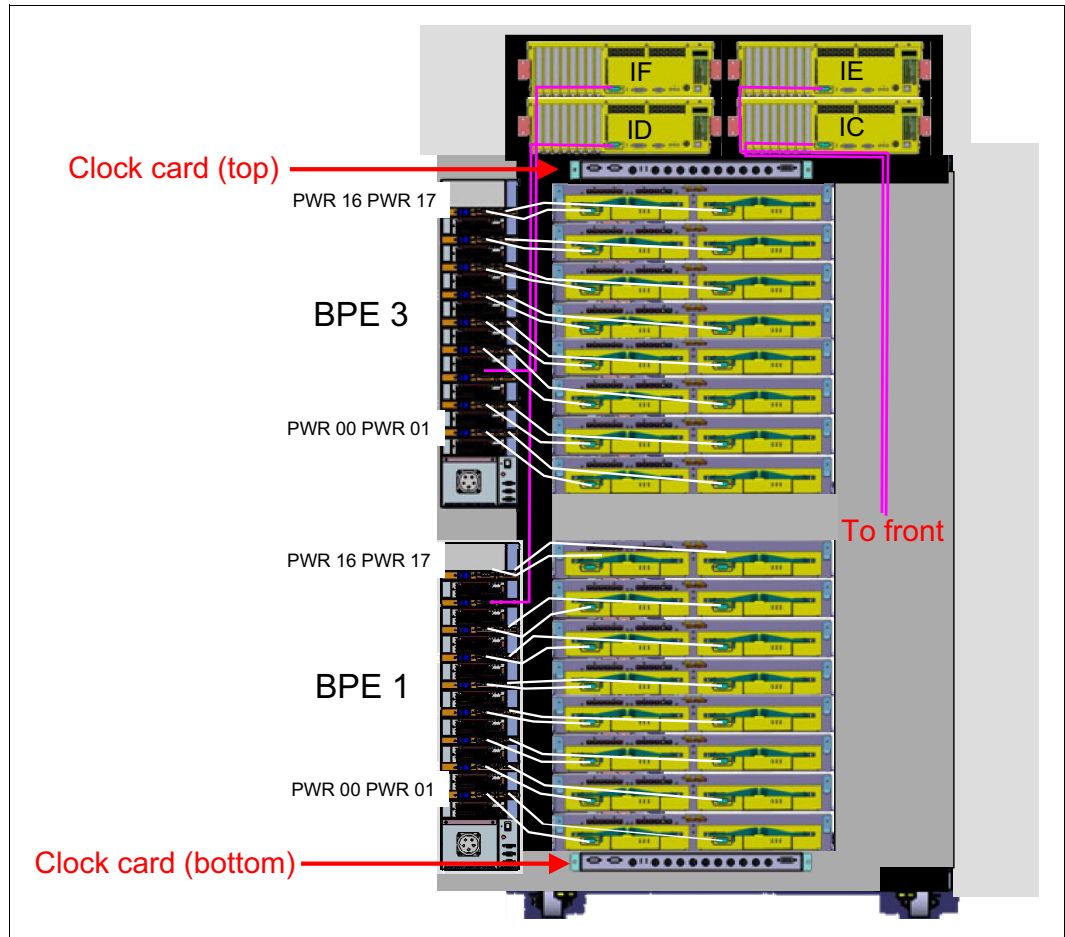

Figure 1-17 Clock card placement
1. Install the clock card in the bottom position when the cables are routed below the floor. Install it in the top position when the cables are routed overhead. See Figure 1-17.